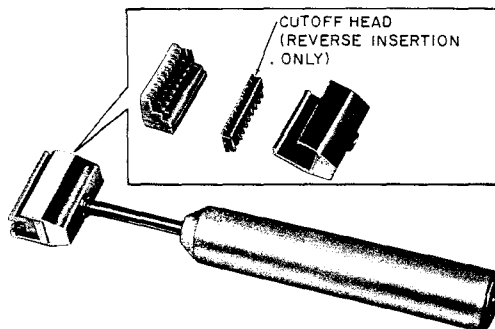

Fig. 12—788J Impact Tool
3.05 The 788J-type (impact) tool (Fig. 12)